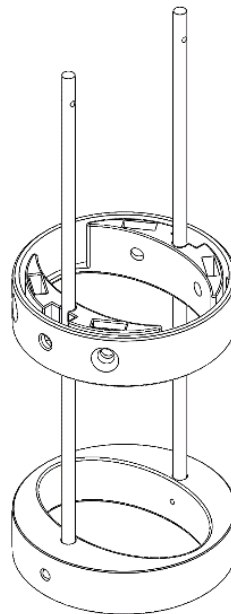

FIGURE 2
2. Install the *top housing insert* (EL 55181) onto the fiberglass rods as shown in Figure 2.